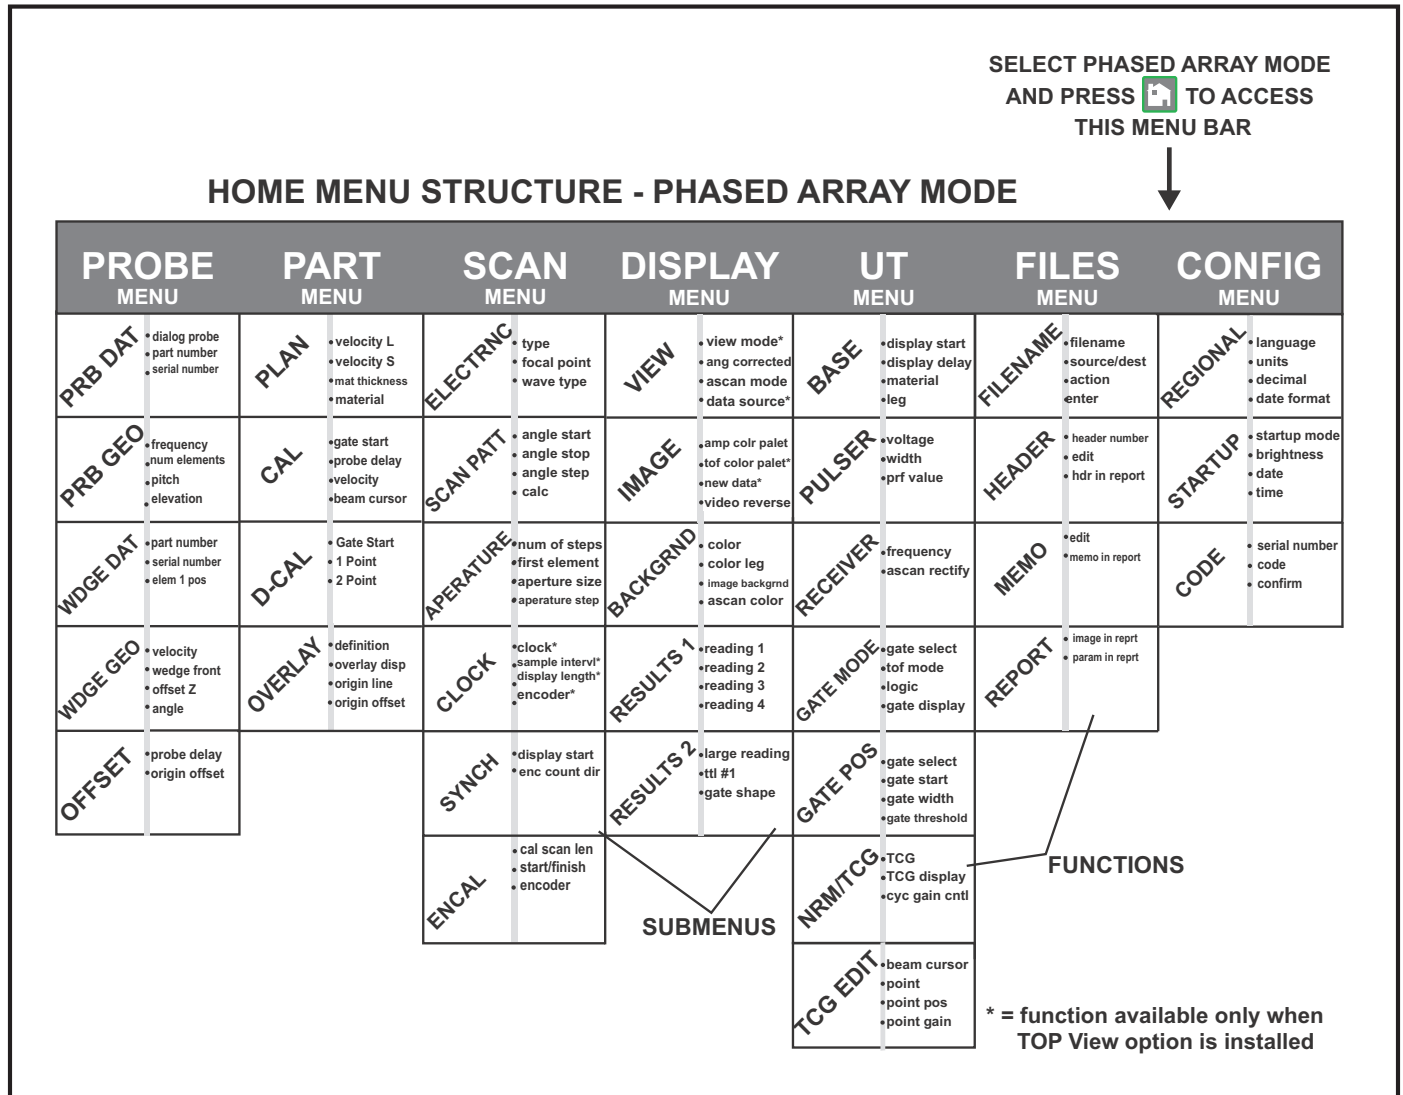

Figure 3: These menus, submenus, and functions are accessed through the Home Menu.
—*Home Key* immediately returns the instrument to the Home Menu shown in Figure 3 on page 5 (Phased Array) or Figure 3 on page 5 (Conventional). If held for 3 seconds, automatically performs a scan calculation. If pressed two times, all functions are de-selected and the Function Knob controls the beam cursor (Section 3.3).
*Note: Figure 3 on page 5 shows the instrument's Home Menu structure. The information provided in the following two manual sections explains what each function does and shows how to access the function through the menu system. You'll also find operation-manual section references that tell you where to turn in this manual for more specific information on each function.*
- Available menus are accessed via the phased array *Home Menu* (Figure 3 on page 5)